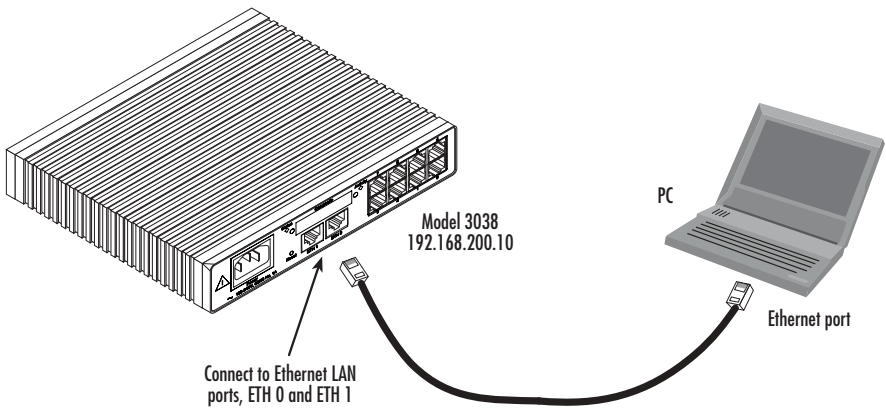

Figure 3. Connecting to the PC's ENET port
1. To access the configuration, connect a PC's Ethernet port to the unit's LAN port (see figure 3). Use the black Ethernet cable included with your 3034/3038 for this purpose.